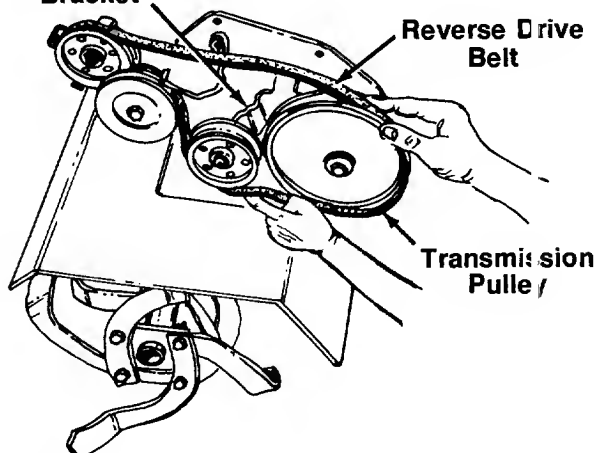

FIGURE 29.
3. Roll belt off the transmission pulley. Remove it from beneath the forward idler bracket. See figure 29.